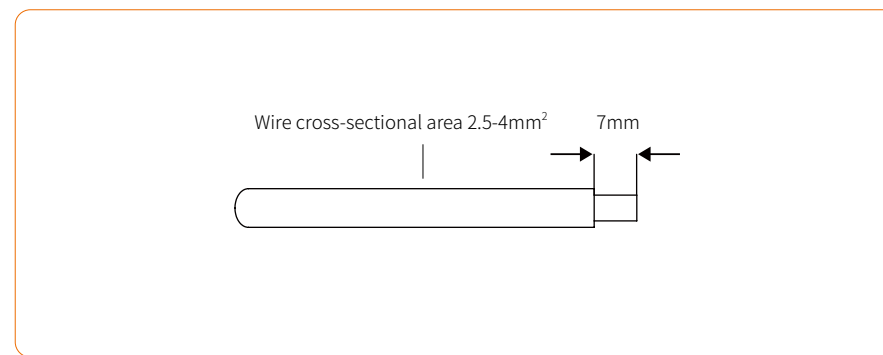

Figure 4-17
- ② Peel off the DC cable insulation sleeve for 7 mm, as shown in Figure 4-17: